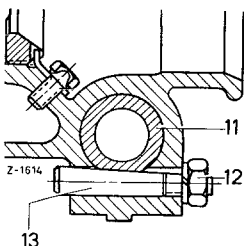

Fig. 35-5/1
- 2 Unscrew hex. nut (12) of wedge screw (13) (Fig 35-5/1) and knock out wedge screw (Fig. 35-5/2).